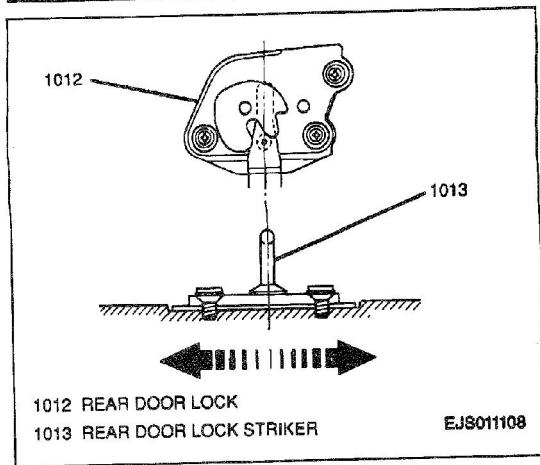

Figure 11—Rear Door Lock Striker Alignment
- A. Striker vertical measurement so that the striker shaft aligns with the center of the rear door lock assembly (Figure 11).